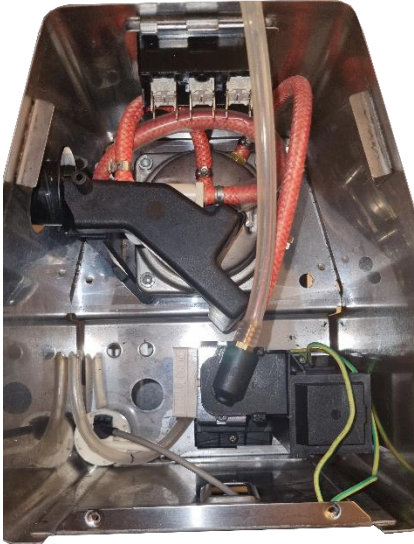

Fig. 6.1
- You will glue the flow sensor in the left-down corner to the bottom. Clean the spot with acetone or alcohol then take out the adhesive tape protection and glue it on the floor like in (fig. 6.1)
- Take the hose and place it on top of the sensor in pipes. Mark the spot where you will cut the hose like in (fig. 6.1)